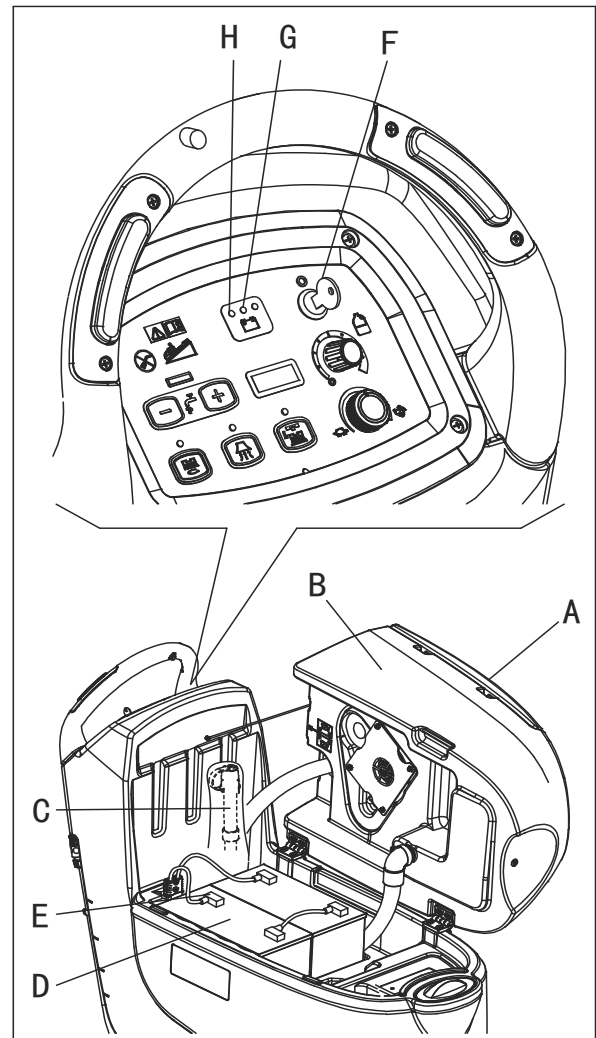

Figure 16
Charge the batteries when the yellow (G, Figure. 16) or red warning light (H) turns on, or when finishing cleaning.
1. Open the cover (A, Figure. 16) and check that the recovery water tank (B) is empty, otherwise empty it with the drain hose (C).
3. Turn the ignition key (F) to "0".
4. Carefully lift the tank (B).
- Check the level of electrolyte inside the batteries (D); if necessary, top up through the caps (E).
- Leave all the battery caps (E) open for next charging.
- If necessary, clean the upper surface of the batteries (D).